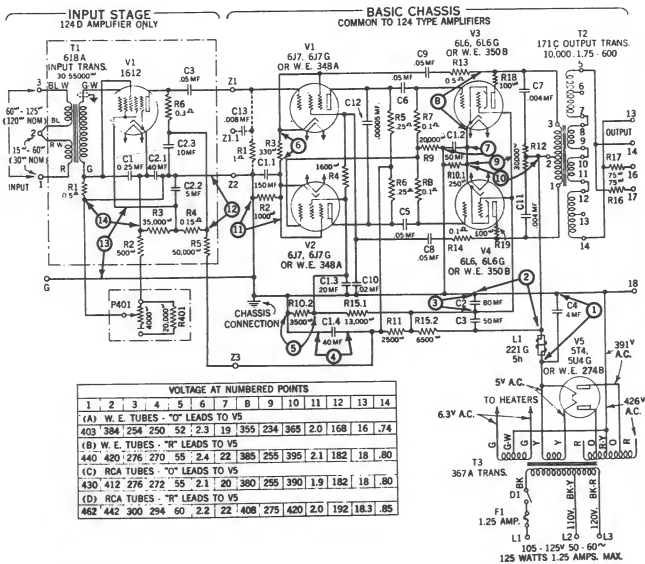

Fig. 2
4.63 In connection with locating troubles within the amplifier, the operating currents and voltages of various parts can be checked in accordance with the information included in Figs. 2 and 3. Make these tests with a volt-ohm-meter having a resistance of at least 1000 ohms per volt.
4.65 Measure the voltage and current at the numbered points as shown in Figs. 2 and 3.